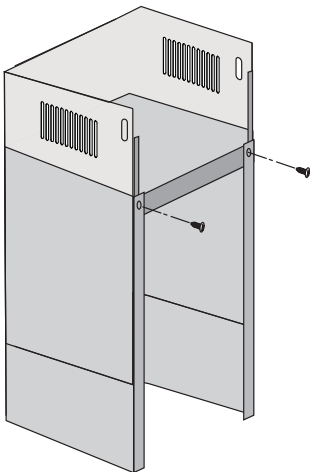

Figure 5
- Use two screws to fix the two chimneys together with the lower chimney bracket, make sure upper chimney is moving freely (see Figure 5).